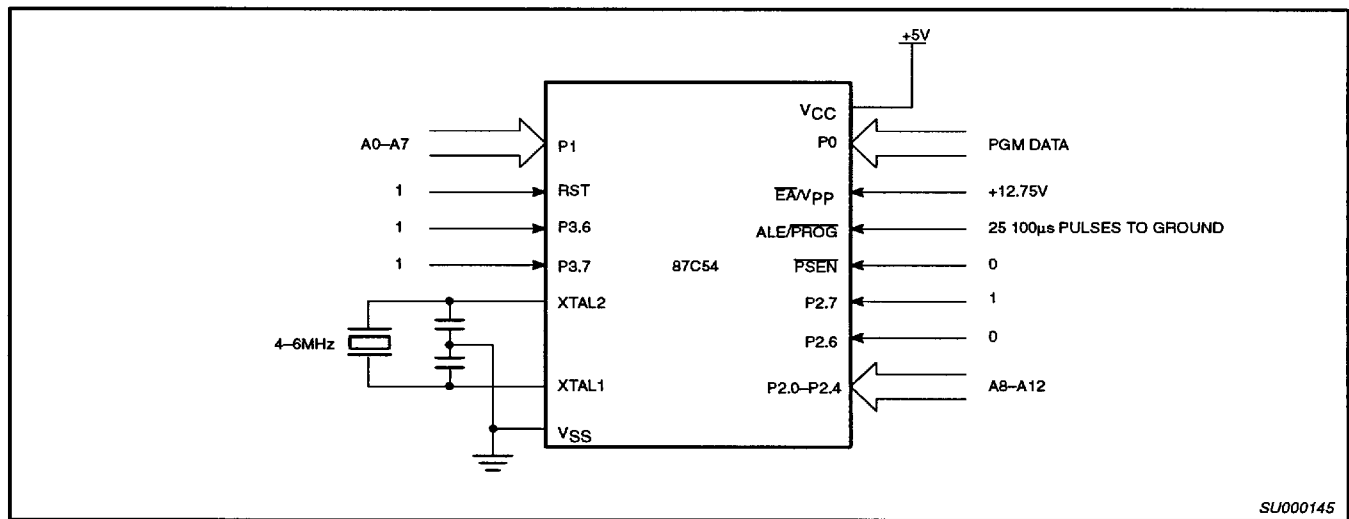

Figure 16. Programming Configuration
Table 3 shows the logic levels for reading the signature byte, and for programming the program memory, the encryption table, and the security bits. The circuit configuration and waveforms for quick-pulse programming are shown in Figures 16 and 17. Figure 18 shows the circuit configuration for normal program memory verification.
The setup for microcontroller quick-pulse programming is shown in Figure 16. Note that the 87C54 is running with a 4 to 6MHz oscillator. The reason the oscillator needs to be running is that the device is executing internal address and program data transfers.
The address of the EPROM location to be programmed is applied to ports 1 and 2, as shown in Figure 16. The code byte to be programmed into that location is applied to port 0. RST, PSEN and pins of ports 2 and 3 specified in Table 3 are held at the 'Program Code Data' levels indicated in Table 3. The
- * FOR PROGRAMMING VERIFICATION SEE FIGURE 16.